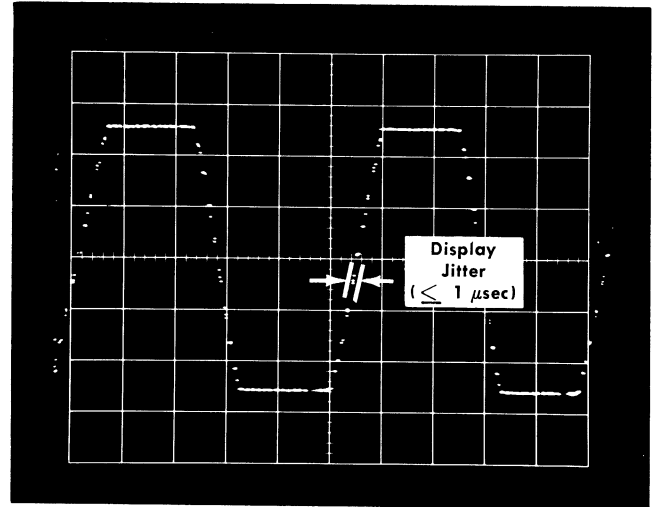

Fig. 5-37. Typical crt display for checking real-time display jitter on internal calibrator.
- p. **Check** the horizontal thickness of the trace for the amount of time jitter. This should not exceed  $1 \mu\text{sec}$  (see Fig. 5-37).